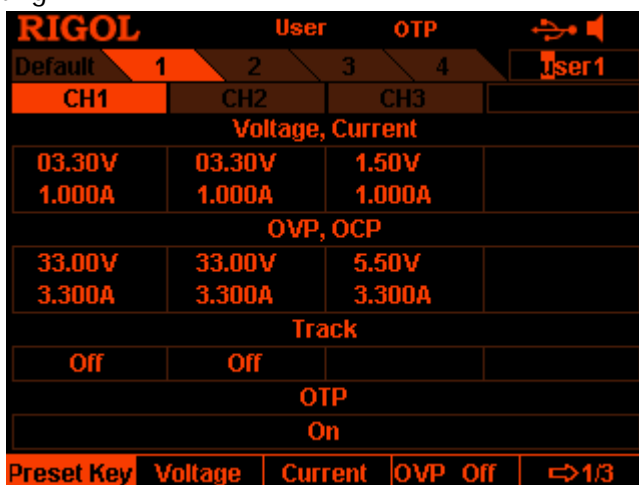

Figure 2-15 User-defined Setting Interface
Press **Preset Key** to enter the interface as shown in Figure 2-15 (user-defined setting 1 is selected in the interface). The instrument setting is displayed in the interface. At this point, pressing **Preset** at the front panel will recall the corresponding setting.
- You can restore the user-defined parameters modified to default values by pressing **Default** in the last menu page in the interface as shown in Figure 2-15.
You can also rename the 4 groups of user-defined settings (the default names are user1 to user4) and the name is displayed at the upper-right corner of the interface as shown in Figure 2-15. Press **Preset Key** and use the direction keys and knob to edit the name.